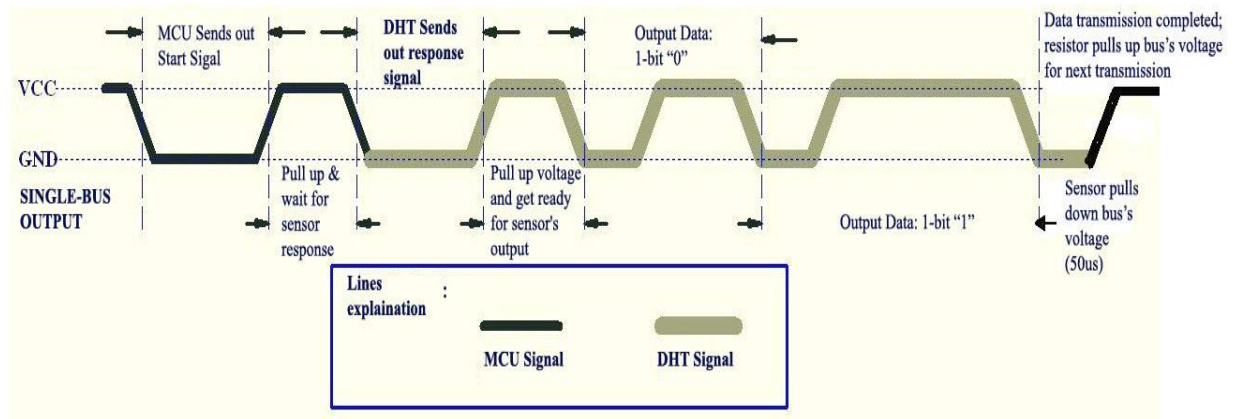

Figure 2 Overall Communication Process
5.1 Overall Communication Process (Figure 2, below)